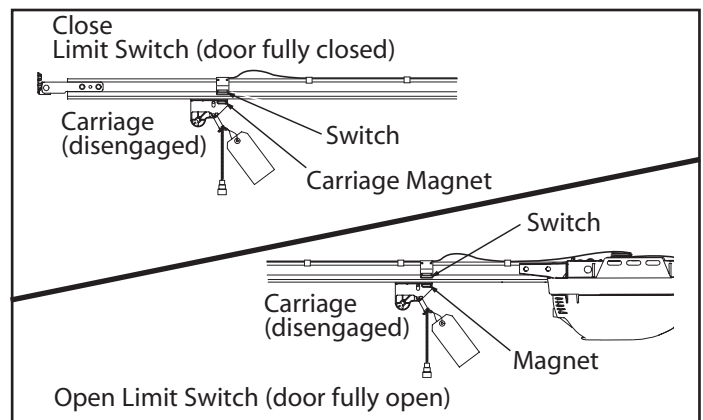

Figure A-2 Setting Limit Switches
- B** Adjust the Close Limit Switch: (**Figure A-2**).
- C** Adjust Open Limit Switch: (**Figure A-2**).